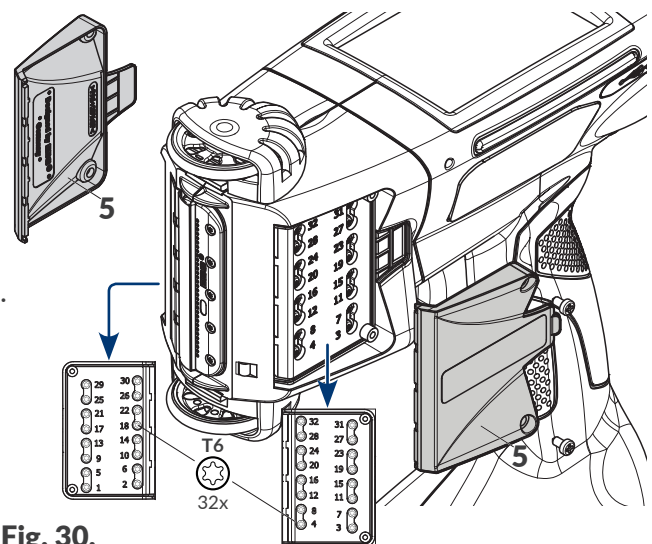

Fig. 30.
1. Use the cross head screwdriver to unscrew the screws that fasten the cover plates **5** on both sides of the printer (see **Fig. 30**).
15. If the quality of printouts is satisfactory, finish the tuning procedure and re-install the cover plates **5** (see Fig. 30 on page 133).